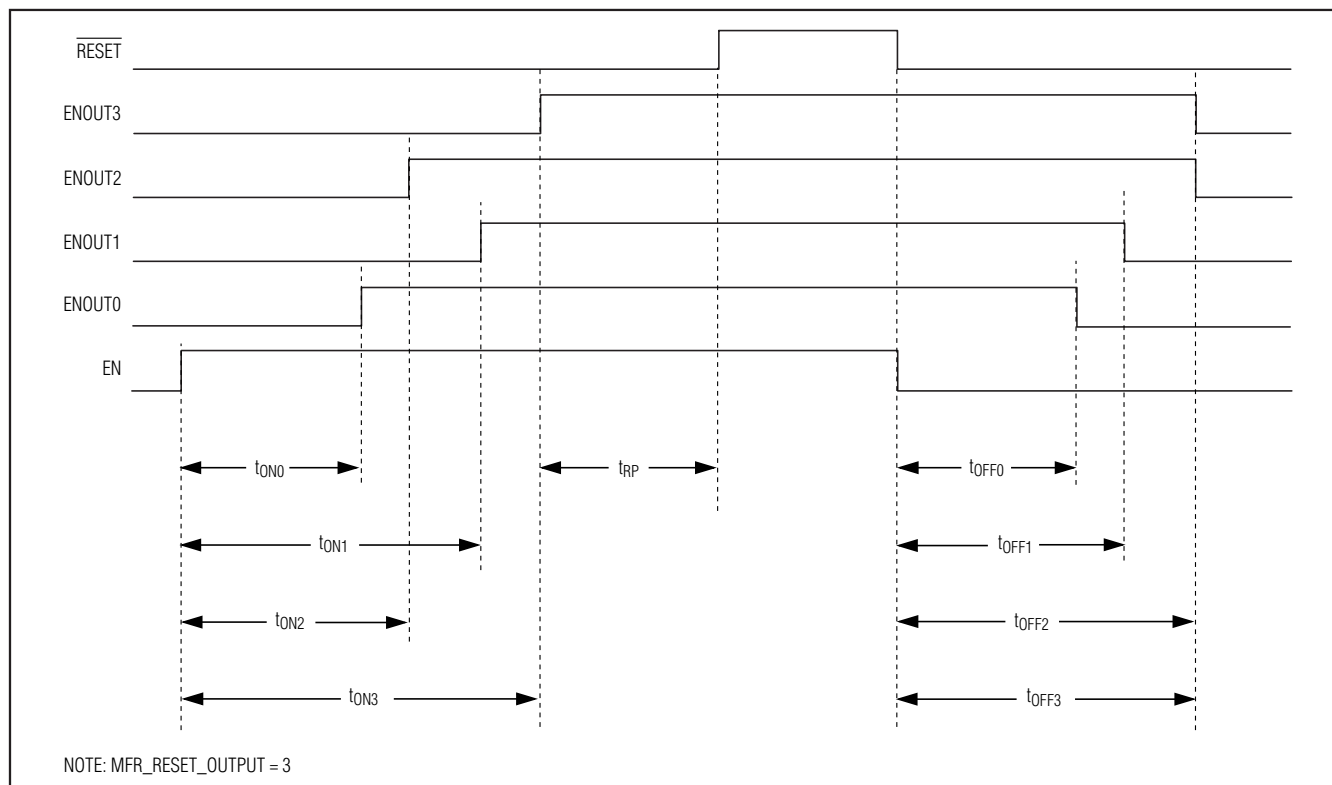

Figure 9. MAX16064 Typical Sequencing Timing
RESET is an active-low, open-drain output that is low when the device is powering on. RESET is assigned to one of the power supplies using the MFR_RESET_OUTPUT command. When that power-supply output is at the target voltage, RESET goes high after the reset timeout period (see Figure 9). The reset timeout period (t_{RP}) is set by the MFR_RESET_DELAY command.
The MAX16064 includes an enable input (EN) that controls all ENOUT_ signals in conjunction with the MFR_MODE command. Unless MFR_MODE.IGNORE_EN is set, a below-threshold level on EN prevents any ENOUT_ from turning on. Additionally, if the voltage at EN falls below the 1.2V (typ) threshold during OPERATION ON, the MAX16064 follows the fault action in MFR_FAULT_RESPONSE.EN. Figure 9 shows a typical sequencing with MFR_MODE.IGNORE_EN = 0.